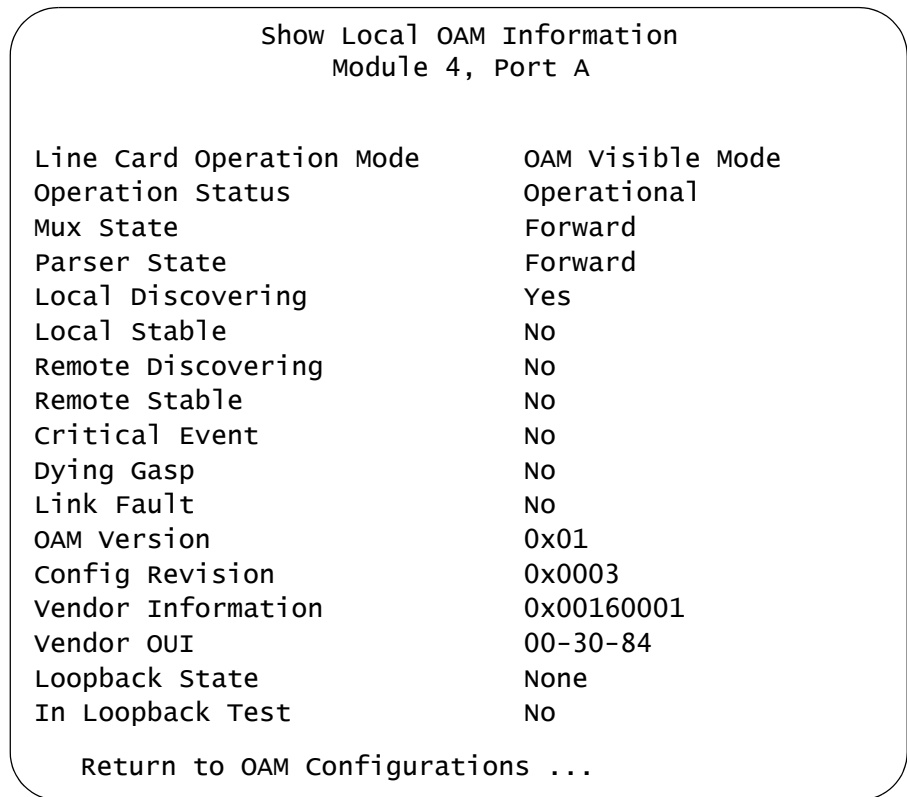

Figure 96. Show Local OAM Information Window
5. From the OAM Configuration Menu, select the **Show Local OAM Information** window to display the Show Local OAM Information Menu, shown in Figure 96 on page 215.